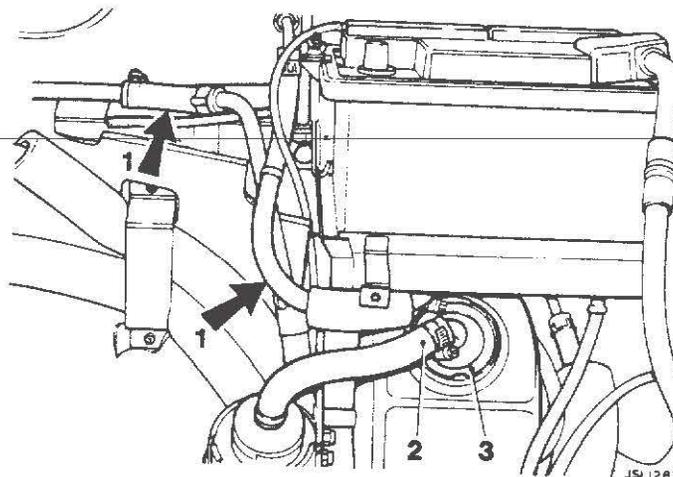

FIG 1
2. Using suitable tools, clamp the hoses in the positions shown (1 Fig 1) to the fuel tank/auxiliary tank hoses.
5. Position an absorbent cloth under the auxiliary tank and disconnect the hose from the auxiliary tank suction pipe assembly (2 Fig 1).
6. Remove the suction pipe assembly and sealing ring (3 Fig 1) from the auxiliary tank using a brass drift.